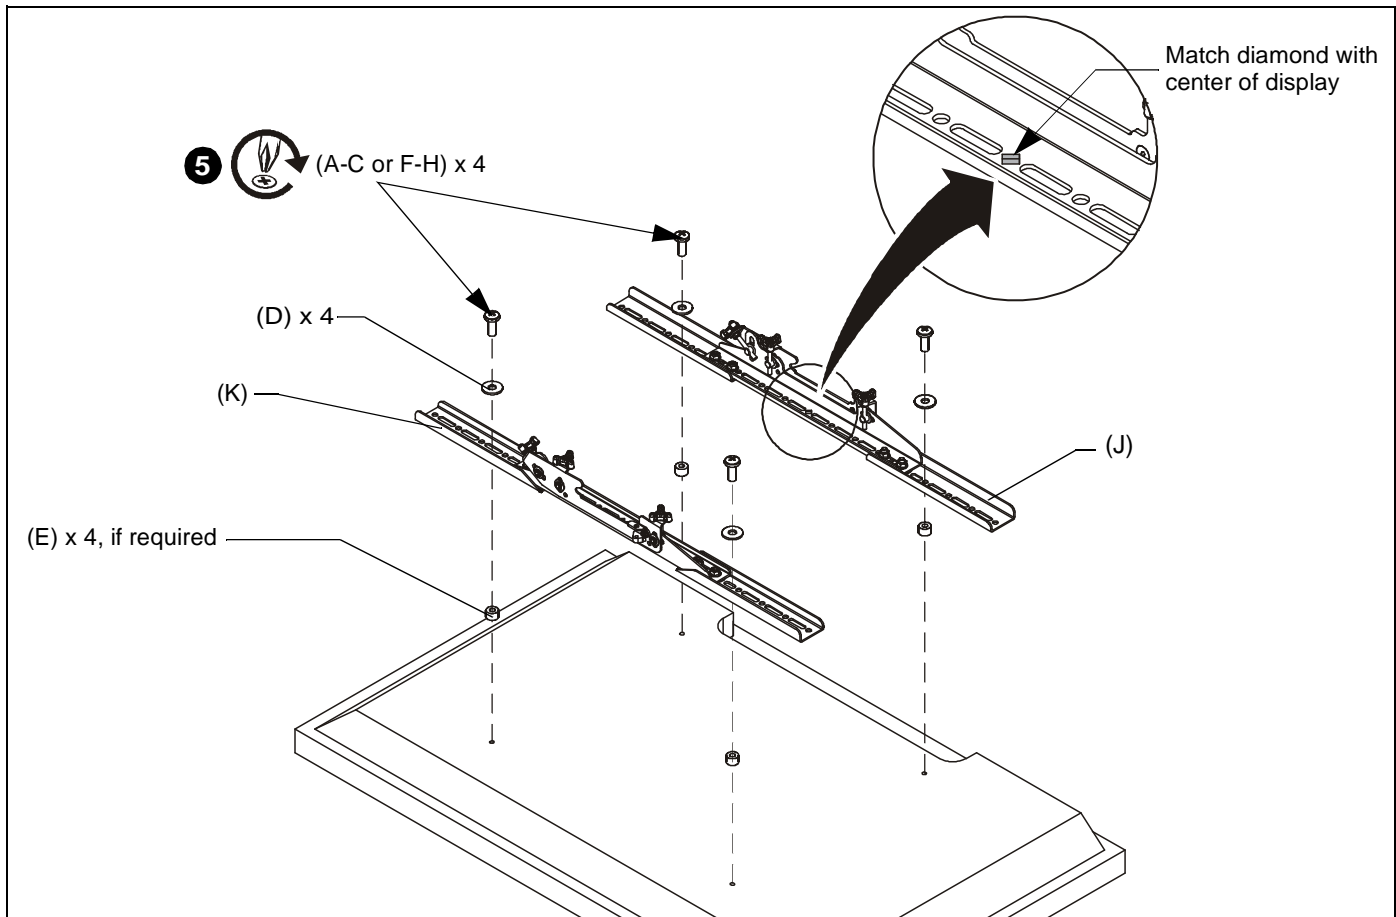

Figure 3
2. Select screw *diameter* by examining hardware (A-C and F-H) (6mm or 8mm) and comparing with mounting holes on display. (See Figure 3)
- Spacers (E) **ARE** required if mounting holes are recessed, or if protrusions prevent interface brackets (J and K) from laying flat.
4. Select screw *length*: (See Figure 3)
- By hand, insert **SHORTEST** length screw of selected diameter (A or F) through 1/4" washer (D), bracket (J or K), selected spacer (E, if required), into display mounting hole. Do **NOT** thread screw into hole at this time.
5. Make sure diamond on interface brackets is even with center of display. (See Figure 3)
6. Use selected screws (A-C or F-H), washers (D) and spacers (E), if necessary, to connect interface brackets (J and K) to back of display. (See Figure 3)